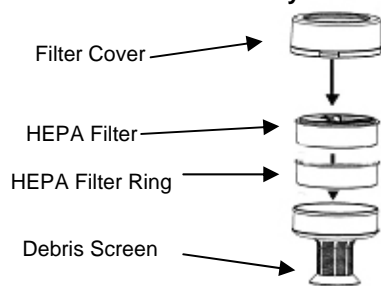

Fig. 15
2. To separate the filter assembly, hold the bottom of the debris screen and pull the filter cover out. (Fig. 15)